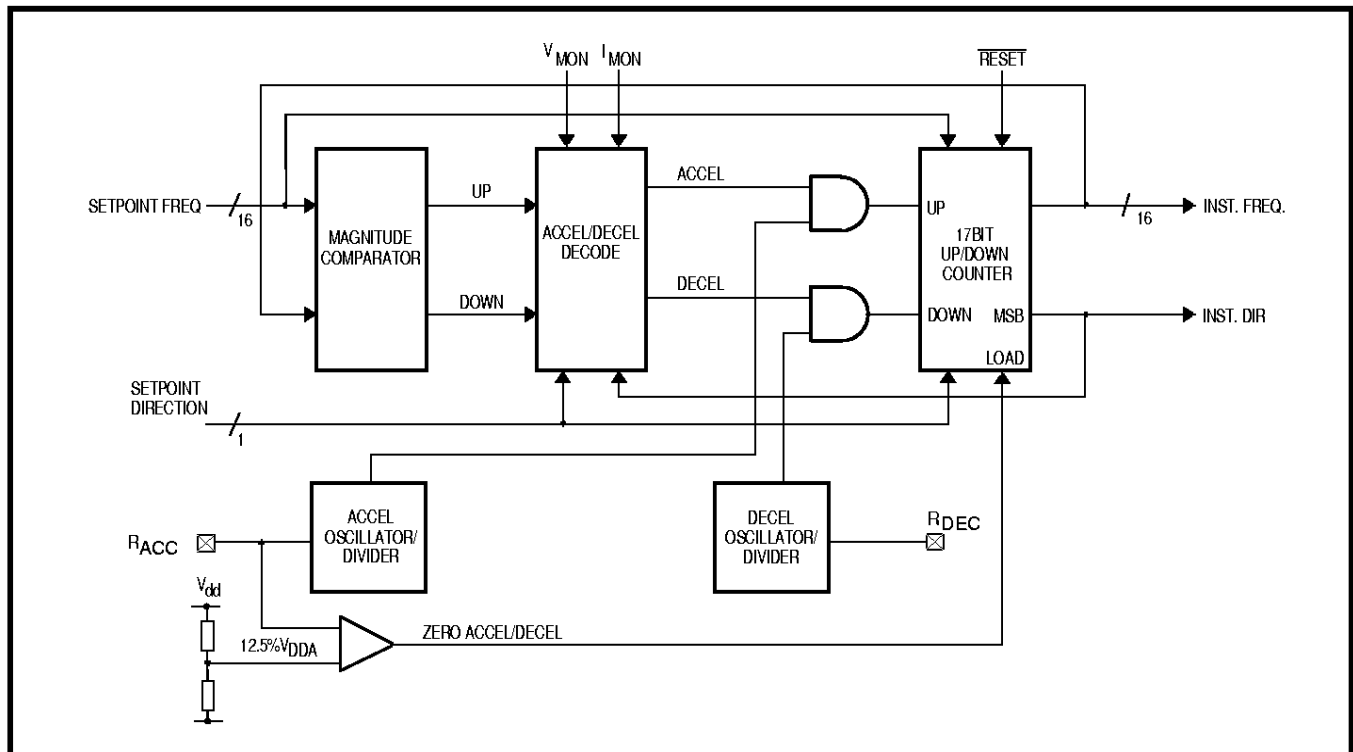

Fig.5 Acceleration/deceleration logic
The acceleration/deceleration logic consists of a 16-bit magnitude comparator and an 17-bit up/down counter clocked by the output from the Accel or Decel oscillators (see Fig.5). The acceleration and deceleration rates are separately selectable using external timing components. A resistor (R) is connected from the R_{ACC} pin to V_{DD} and a capacitor (C) from the R_{ACC} pin to V_{SS}. Similarly a separate RC network is connected to the R_{DEC} pin. The values of the resistors and capacitors may be the same or different to produce equal or unequal acceleration and deceleration times.